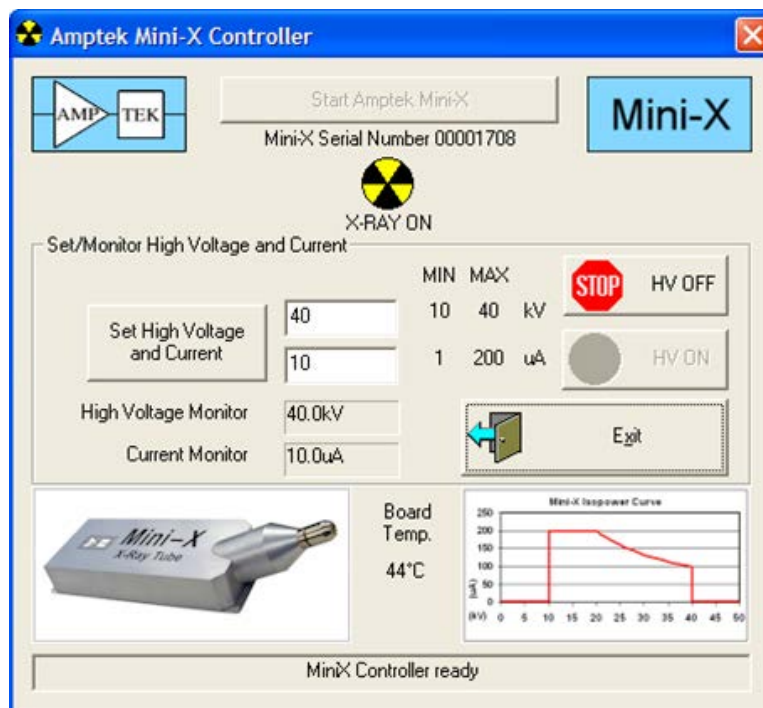

FIG.14. Turning on the x-ray tube.
- Click on the icon  of Mini-X in Windows Menu at the lower left corner of the desktop and press “Start Amptek Mini-X” at the top of a small window (see Fig.14).
- Turn off the x-ray tube by pressing the virtual button HV OFF (see Fig. 14).